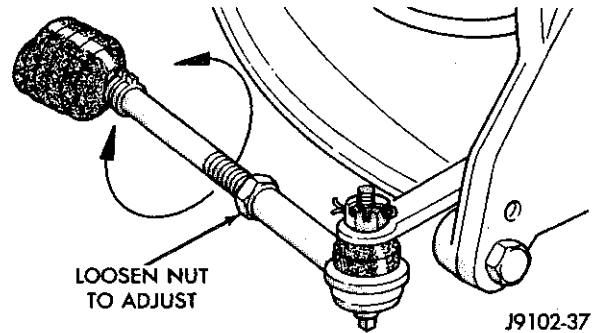

Fig. 5 Toe Adjustment (2WD)
(3) Adjust the wheel toe position by turning the tie rod adjustment sleeves as necessary (Fig. 5, 6).